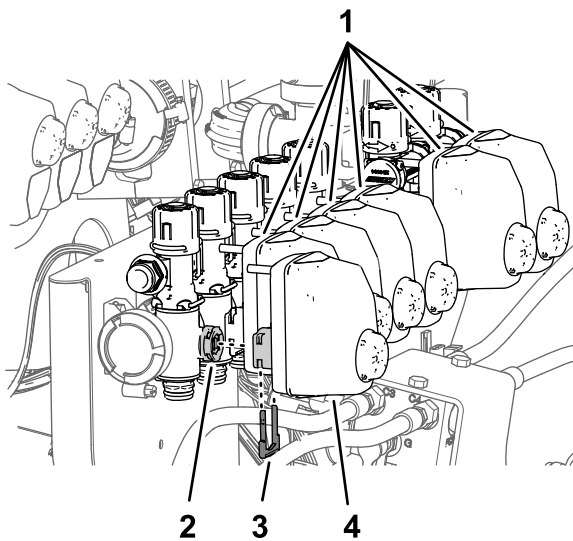

Figure 99
- Remove the retainers that secure the valve actuators for nozzle valves 1 through 7 (Figure 99).
- Remove the valve actuators from nozzle valves 1 through 7 (Figure 99).
- Assemble the valve actuators onto the nozzle valves 1 through 7 (Figure 99) with the retainers that you removed in step 1.